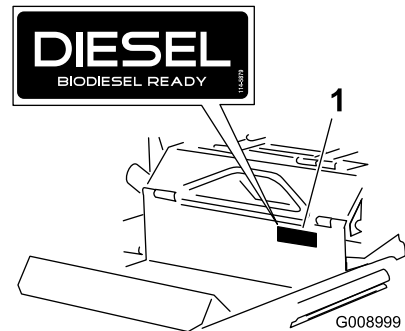

Figure 7
- Clean the existing front decal and the area around it and let it dry (Figure 7).
- Install the new diesel decal over the existing one. See Figure 7.